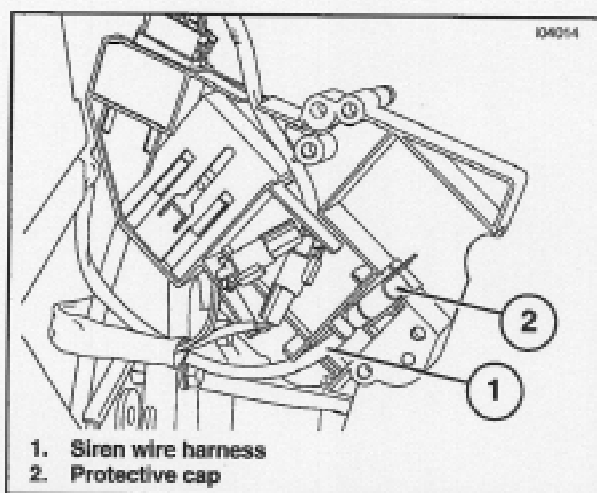

Figure 7. Siren Wire Harness (Touring Models)
4. Refer to Figure 7. Remove the siren harness lead from the back of the electrical bracket, and take the protective cap off of the security siren connector [142B].